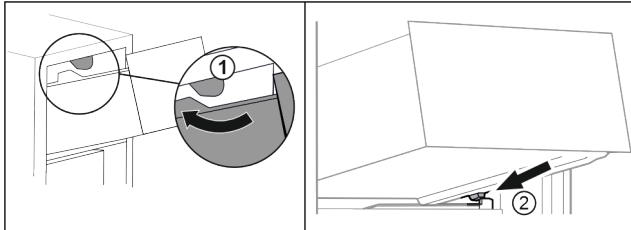

Fig. 102
- ▶ Guide drawer around the upper stoppers. Fig. 102 (1)
- ▶ Place drawer at an angle behind the lower stoppers onto moulded rib. Fig. 102 (2)